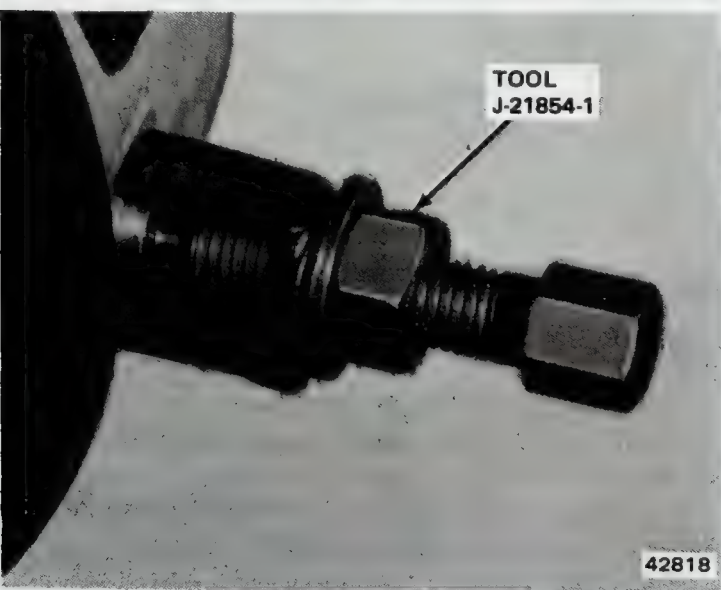

Fig. 2H-22 Pivot Pin Removal
(27) Place housing in neutral (straight) position.
(28) Remove pivot pins using Pivot Pin Remover Tool J-21854-1 (fig. 2H-22).